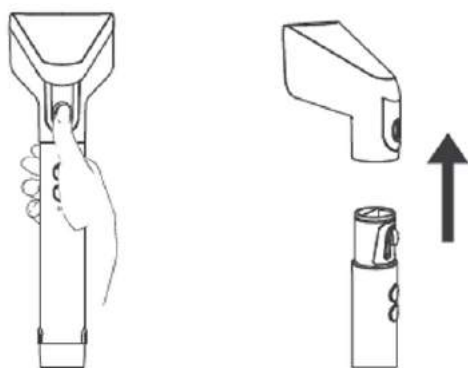

Fig. 30
2. Press the fastener and then remove the brush head (together with the brush head cover) (see Fig.30).